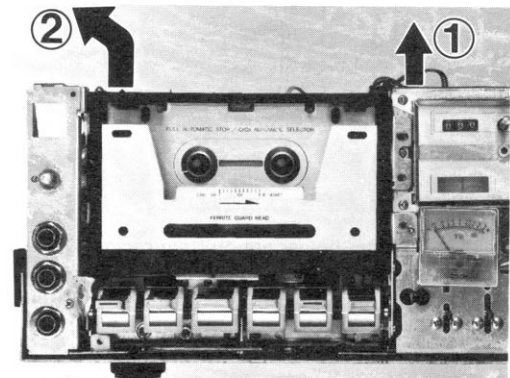

Fig. 31
6) Lift up the front chassis in the direction of arrow 1 and lift up the mechanism block in the direction of arrow 2. (Refer to Fig. 31)